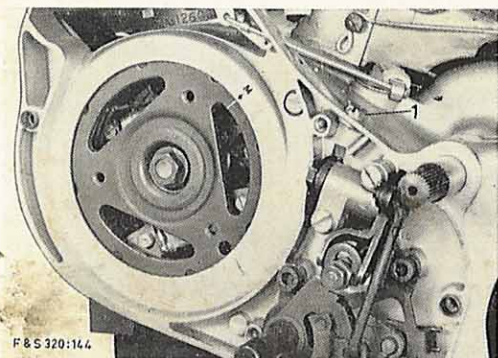

Fig. 82
2. Turn the magneto flywheel back against the direction of rotation until the marking line on the magneto flywheel is in line with the mark "M" on the housing (Fig. 82).